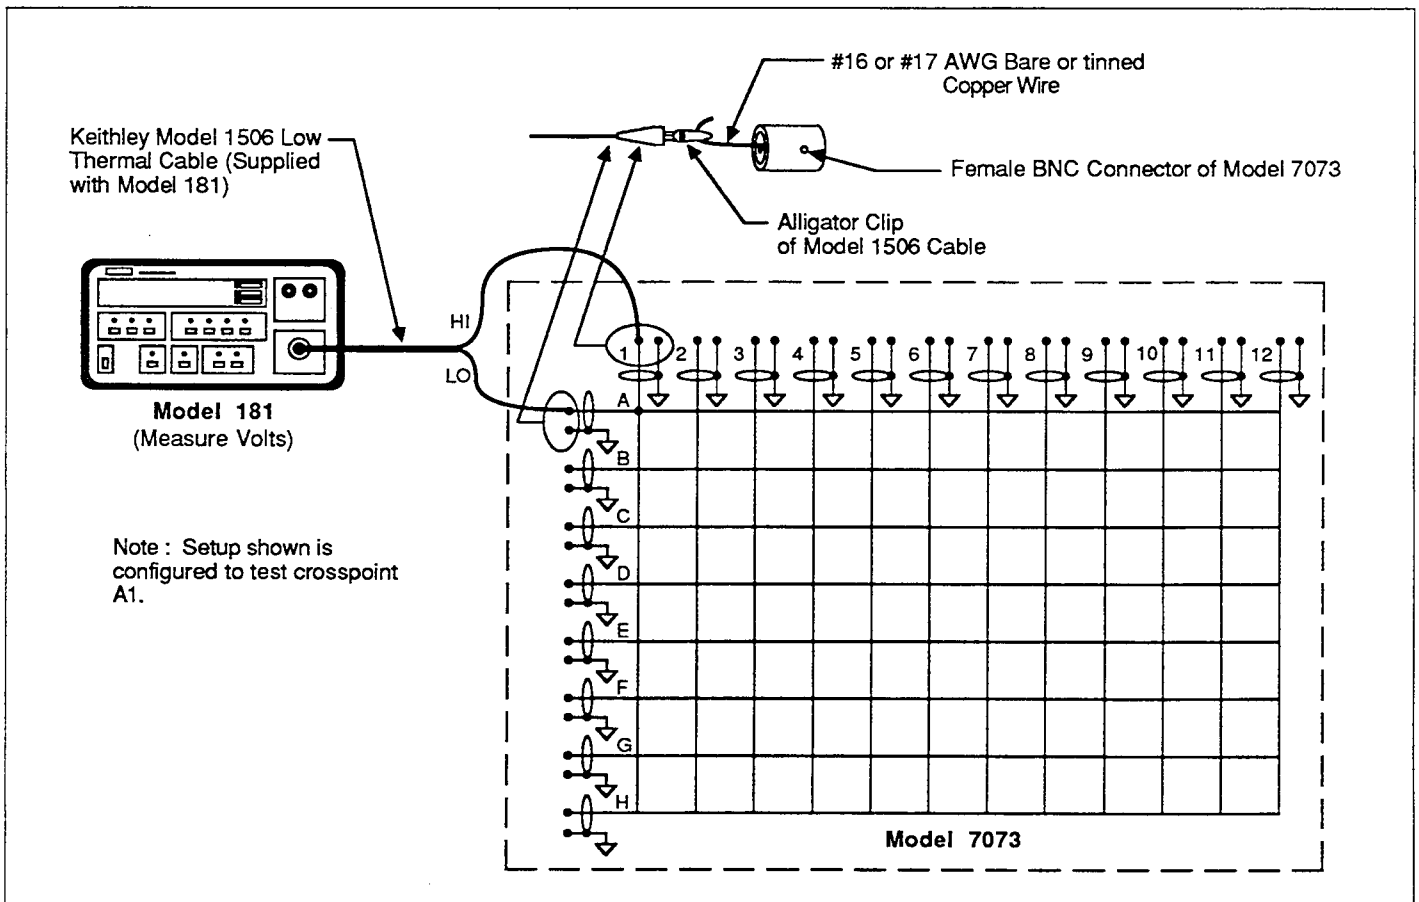

Figure 4-4. Contact Potential Testings
Referring to Figure 4-4, perform the following procedure to check contact potential of each path:
4. Connect the Model 181 to the matrix card as shown in Figure 4-4 and turn on the Model 707. Notice that the copper wire is inserted into the BNC connector center conductor.